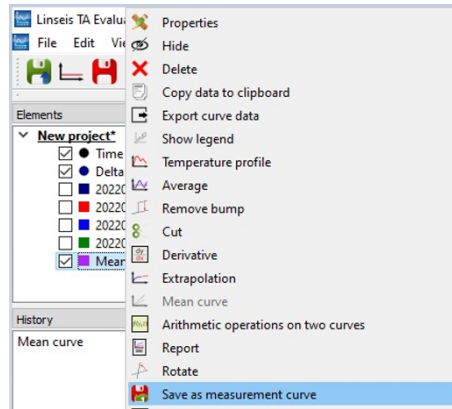

Figure 36. Save the mean curve.
7. Save the mean curve by highlighting it and right click to save as a measurement curve, see Figure 36.